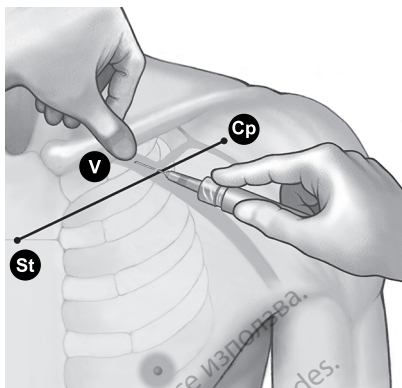

Figure 8. Location of thumb and needle entry
4. Press a thumb against the index finger and project 1–2 centimeters below the clavicle to shield the subclavius muscle from the needle (when hypertrophy of the pectoralis muscle is apparent, the thumb should project about 2 centimeters below the clavicle because the subclavius muscle should be hypertrophied as well) (Figure 8 Location of thumb and needle entry on page 21).